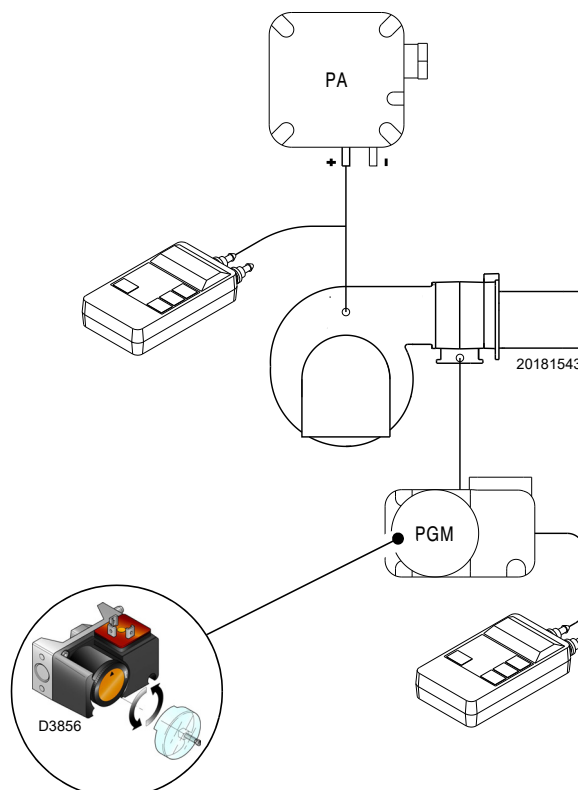

Fig. 31
- Adjust the maximum gas pressure switch (Fig. 31 at page 31) to the end of the scale.
Adjust the maximum gas pressure switch (Fig. 31) after making all other burner adjustments with the maximum gas pressure switch set to the end of the scale.